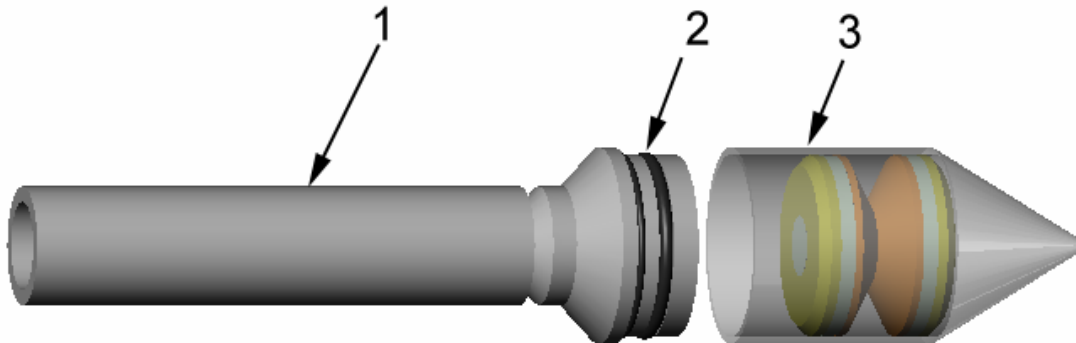

Figure 1: CUT-1156-402 - Exploded View
- 1.4** Insert one Cutter Cartridge (item #4) into the Cup with the larger end of the cartridge directed downward as shown in Figure 1.
- 1.5** Stack the next Cutter Cartridge centered on top of the first cartridge. The second cartridge should be stacked with the smaller diameter downward as shown in Figure 1.